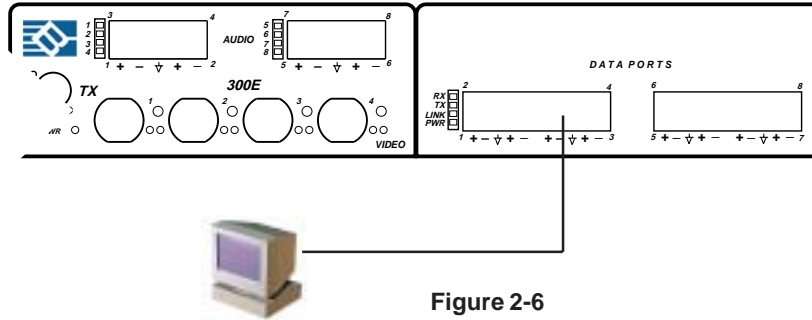

Figure 2-6
1. Connect your serial data cable to the user's RS-232 device. (See Figure 2-6).
(See Figure 2-6).